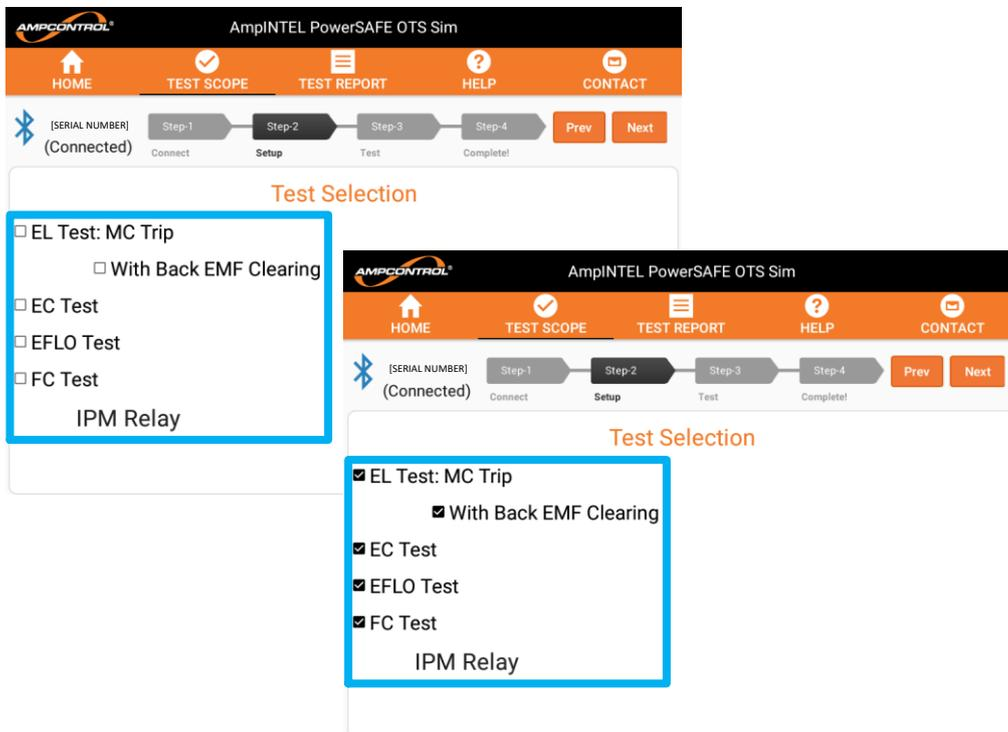

Figure 7-4: Test Selection
The OTS has the ability to test Earth Leakage (EL), Back EMF Clearing time, Earth Continuity (EC), Earth Fault Lockout (EFLO) and Frozen Contact (FC). The OTS greys out any testing options that the outlet is not capable of testing based on the configuration setting. To select a test, check the box next to the associated test as seen in Figure 7-4.